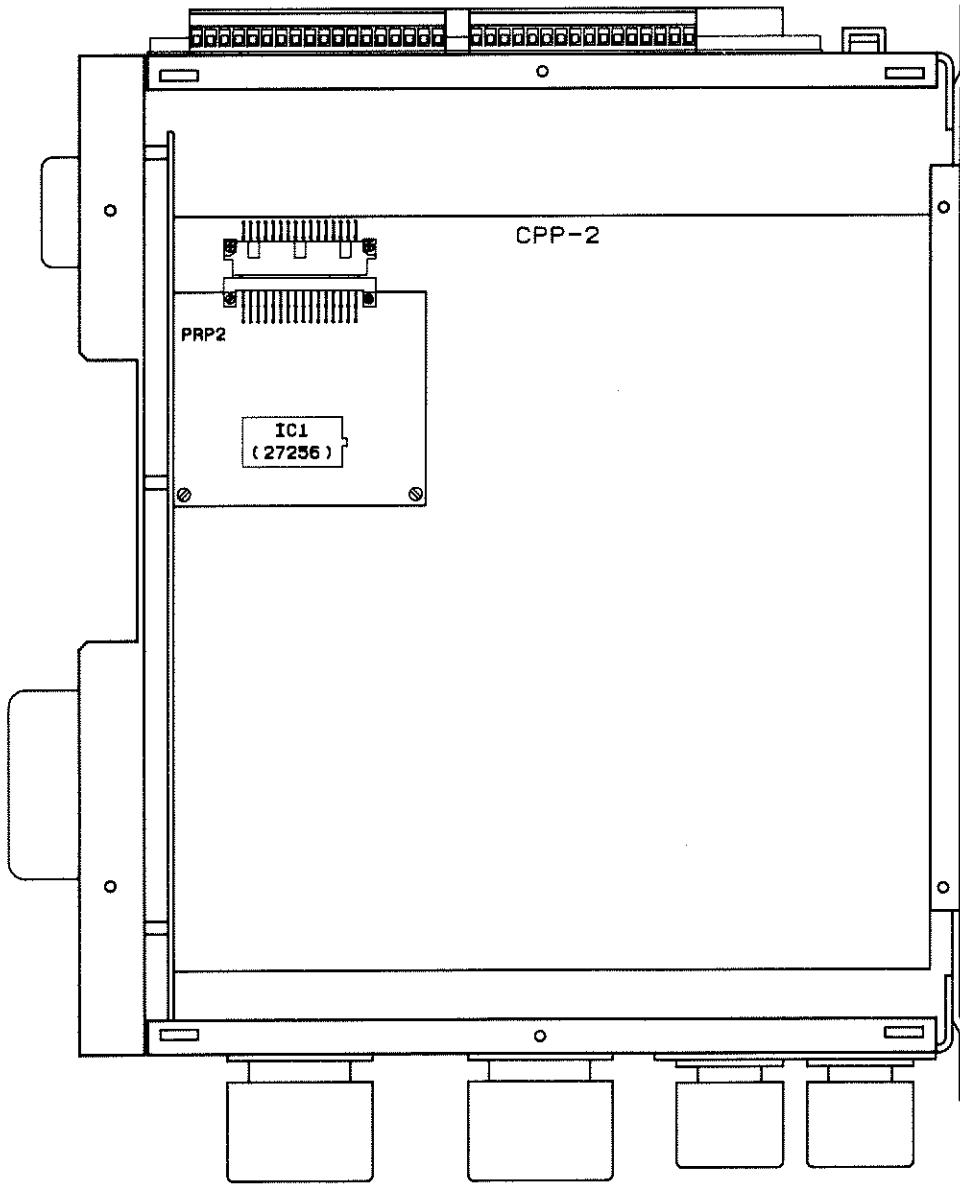

Figure 9-1. Executive EPROM Location In TRANS
If you expand your system to add options, you will need to install new executive software. The executive program of the TRANS is fixed and is supplied by INDRAMAT. This program is contained on an EPROM (Erasable Programmable Read-Only Memory), mounted on the CPP-2 card of the TRANS, as illustrated in Figure 9-1 on page 9-2.
2. If necessary, remove the TRANS from its mounting cabinet, then loosen the screws on the right side panel and remove the panel. You will see the PRP.2 printed circuit board containing one 27256 EPROM mounted in the upper left hand corner of the CPP-2 printed circuit board as illustrated in Figure 9-1.